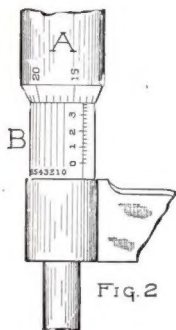
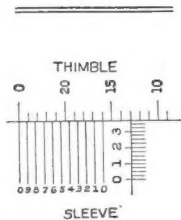

Fig. 2
Fig. 3
THE Micrometer reading to one ten-thousandth part of an inch has additional graduations around the sleeve "B," as shown in the cut (Fig. 2), called a vernier graduation. Ten of these graduations on the sleeve "B" are equivalent to nine on the bevel of the thimble "A." (See Fig. 3.)
The reading of the vernier is as follows: Find the vernier graduation which coincides exactly with some graduation on the bevel of the thimble. The number of this vernier line is the number of ten-thousandths to be added to the thousandth reading, determined as previously indicated. Another way of expressing it is to say that this figure is the one in the fourth place to the right from the decimal point. Thus the reading shown in the cut (Figs. 2 and 4) is .3884, the line marked 4 being the only vernier line coinciding with a graduation on the thimble. If both vernier lines marked 0 and 0 coincide with lines on the thimble, then the reading for ten-thousandths, or the fourth place to the right of the decimal point, is zero (0), that is, the reading is exactly to thousandths. (See Fig. 3.)